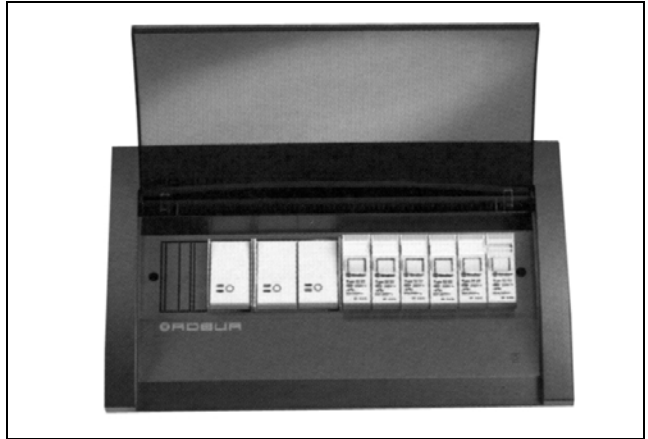

Figure 30 – EXPANSION MODULE
- **EXPANSION MODULE** (Code O-CTR007): in conjunction with the use of a thermostated or integrated control, it allows up to a maximum of three heaters to be controlled simultaneously (see Figure 30)